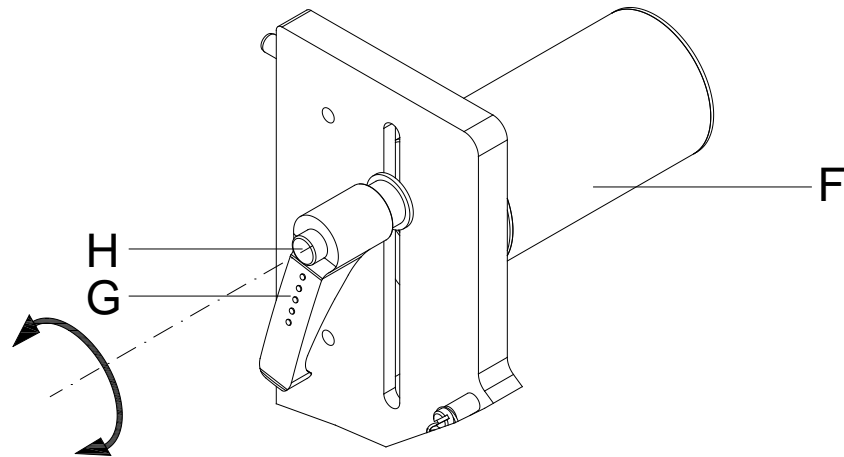

Figure 6
1. After correct inserting of the label material, press key  to activate a test print or start a measuring procedure to determine the exact position of the label beginning. Confirm the test print as long as a label is over the dispensing edge (C) of the wipe-on applicator.
2. Adjust the dispensing position in such a way that the regular remove of the label from the backing paper (B) is ensured.
3. Loosen the return pulley by turning the clamping lever (G, Figure 6) against clockwise direction and then shift it slowly downwards.
4. At the same time, turn the internal rewriter (A) to stretch again the backing paper (B). Repeat this procedure as long as the label which is to be applied is removed from the backing paper (C) and exceeds the dispensing edge (C) approx. 5 mm.